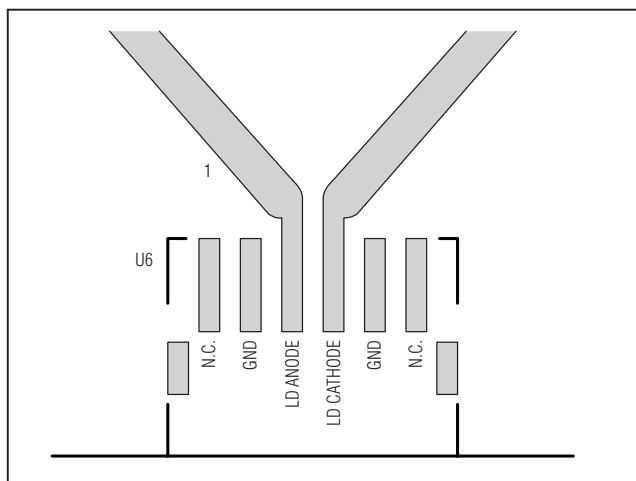

Figure 1. TOSA Connection
- 1) Solder a laser to connection U6. See Figure 1 for more information about the laser connection.